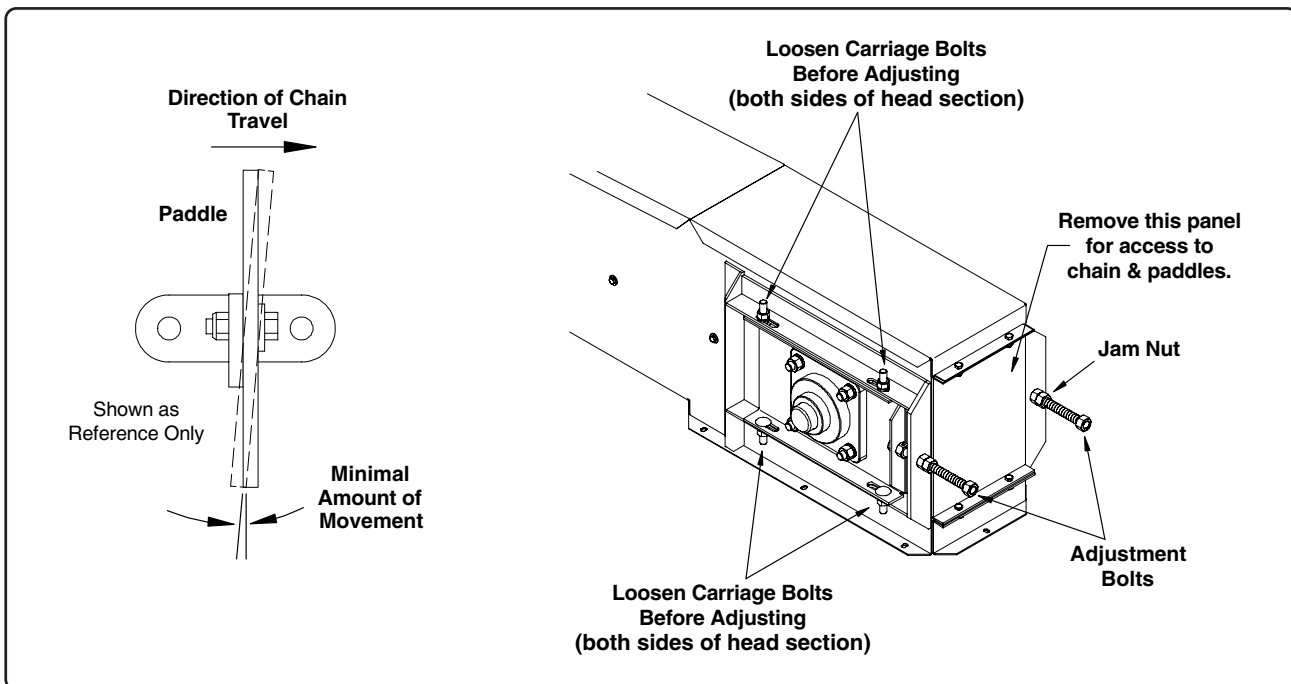

Fig. 20
2. Check chain tension. Grasp one of the paddles at the inlet end, and attempt to rotate it up towards the chain (See Fig. 20). Proper chain tension should allow only minimal movement of the paddle.